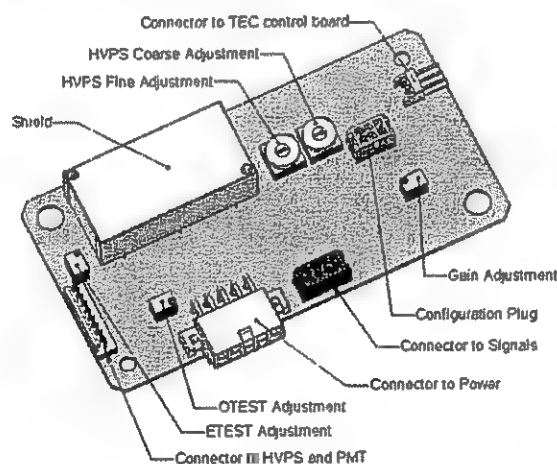

Figure 11-17: Pre-Amplifier Board Layout
7. Locate the Following Components On the Preamp board (see Figure 11-17):
8. Set the HVPS coarse adjustment to its minimum setting (0).
9. Set the HVPS fine adjustment switch to its maximum setting (F).